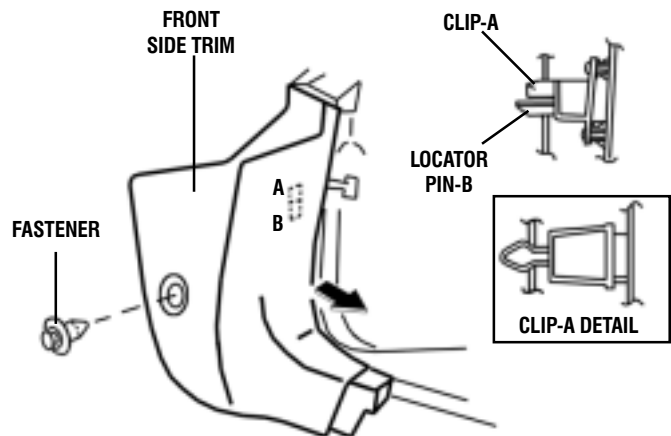

FIGURE 7
- 1.) REMOVE THE FRONT SCUFF PLATE INNER. (SEE FIGURE 7)